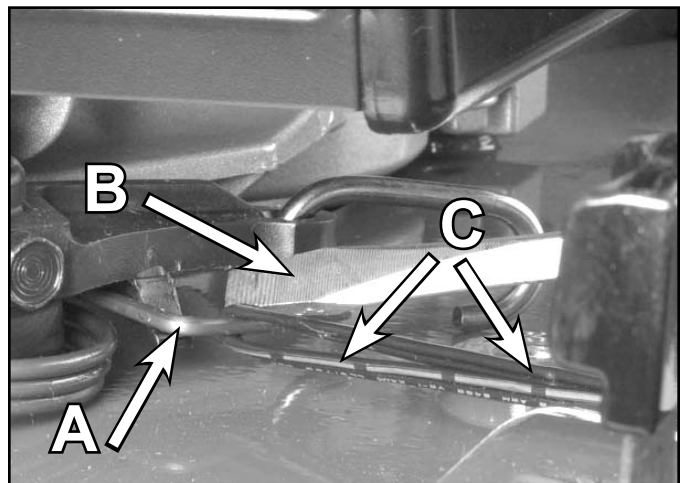

Fig 185
3. Take a loop of wire or rope and unhook the spring under the lever (Fig. 185). With the tension removed you can now remove the long screw through the lever. We would suggest loosening this screw, but leave it engaged at this time (Fig. 187).